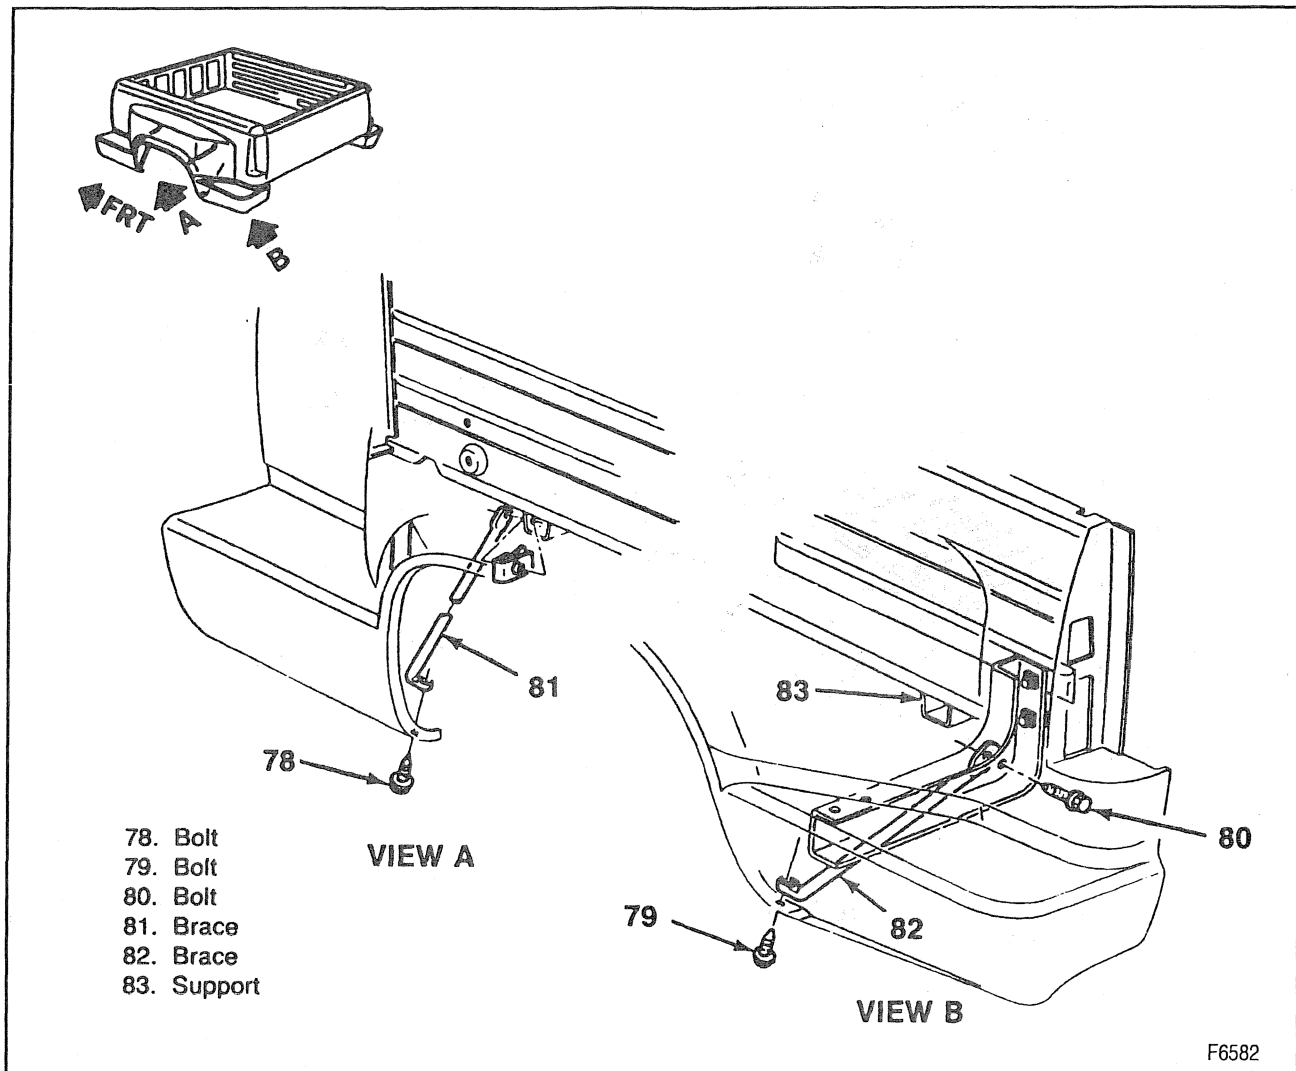

Figure 13—Fender Braces
2. Fender to brace screws (figure 13).